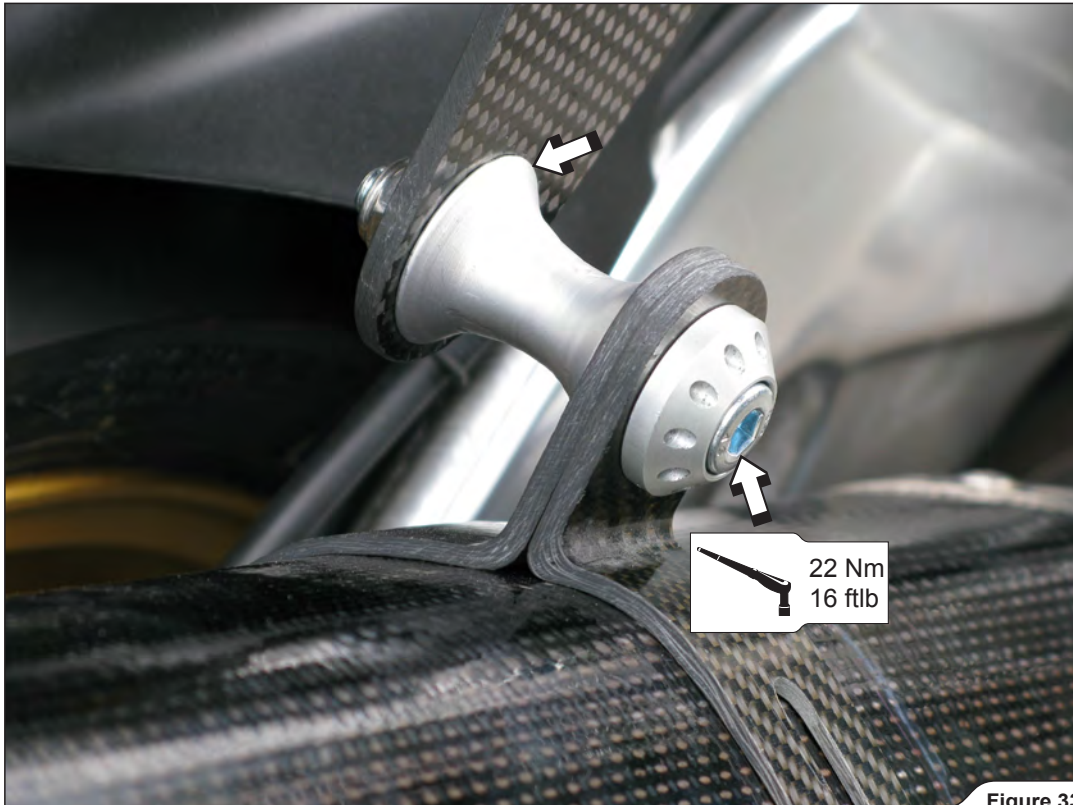

Figure 33
- Align the muffler in respect to the motorcycle and tighten the muffler clamp using Akrapovič bolt, washer and aluminium distance bush with stock spacer bush and nut as shown (Figure 33).